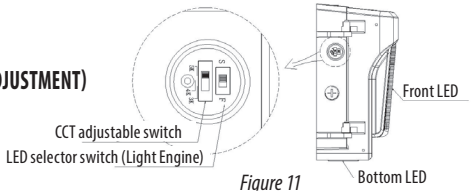
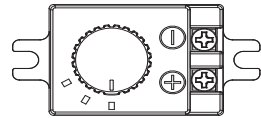

Figure 11
Figure 12
Follow special functions instructions for light engine selection, CCT and wattage adjustments below. (Figure 11 and Figure 12)
2. Select CCT Color as desired using CCT Switch (Figure 11)
Turn the wattage adjustment knob to desired wattage selection (Figure 12). Lumen output will change to the corresponding wattage.